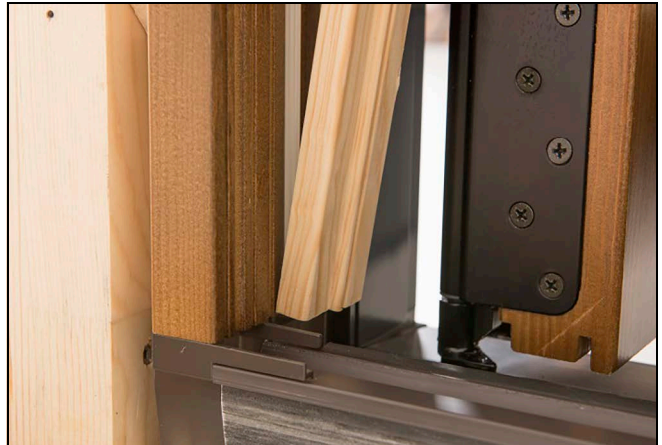

Figure 71
2. Install the support blocks. See Figure 71.